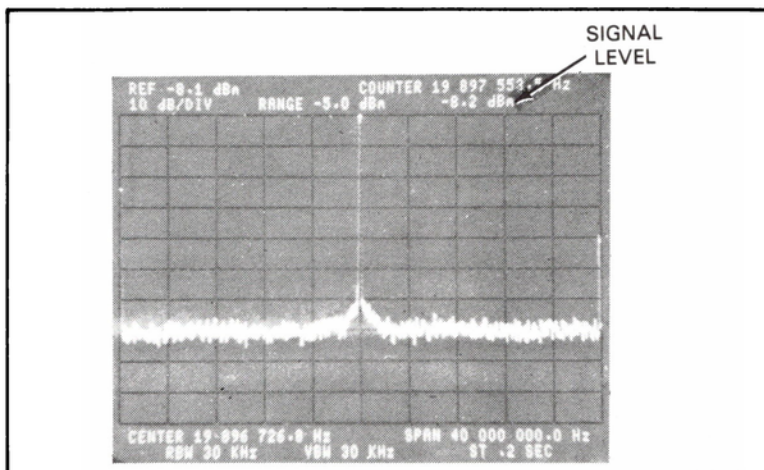

Figure 7-24. Mixer Conversion Loss Test Adjustment
- j. Signal level must be ≥ -10 dBm (See Figure 7-24). Record the signal level on the Performance Test Record card.